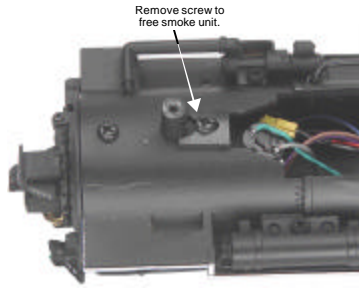

Figure 14
3. With the board free of the bracket, use a phillips head screwdriver to remove the bracket from the inside of the boiler shell (see figure 14).